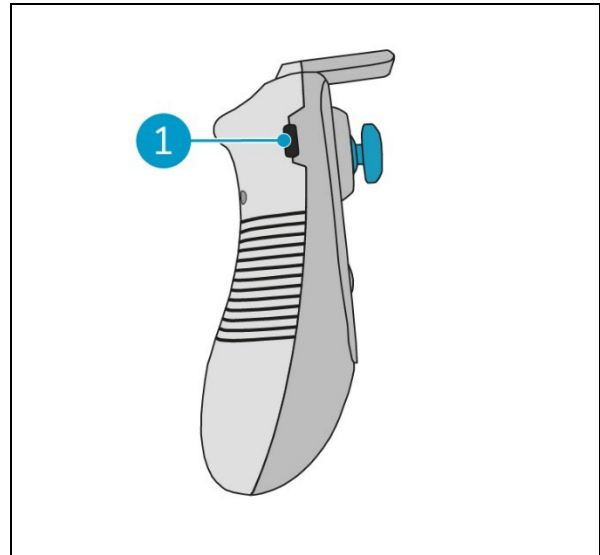

Figure 13
1. Connect the USB-C connector from the USB-C to USB-A cable to the USB-C port (Figure 13, pos. 1) of the remote control.